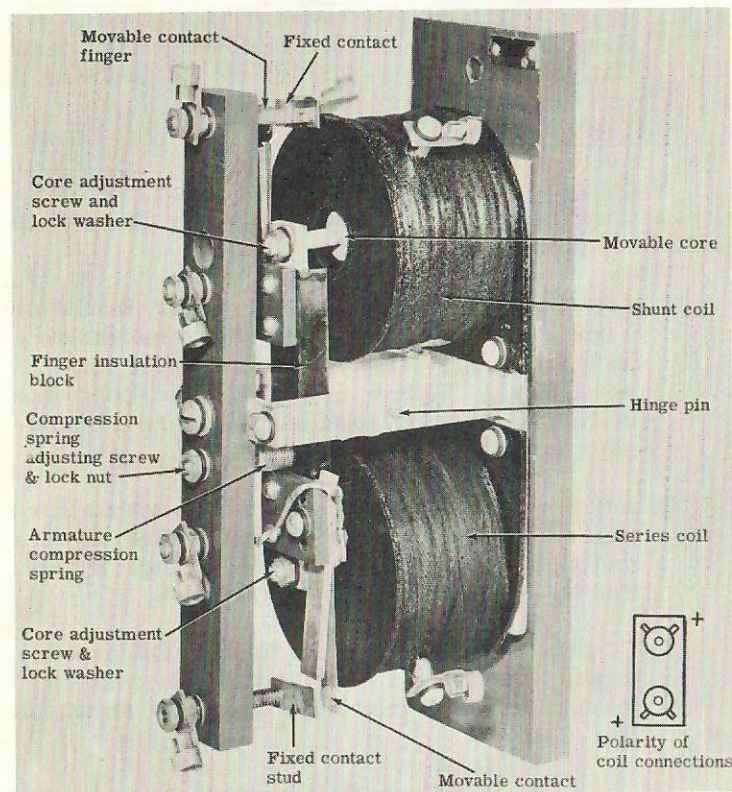

Fig. 7-20
3. Connect each operating coil to a suitable power supply, through individual adjustable resistors, making sure that polarity is same as shown on Fig. 7-20.